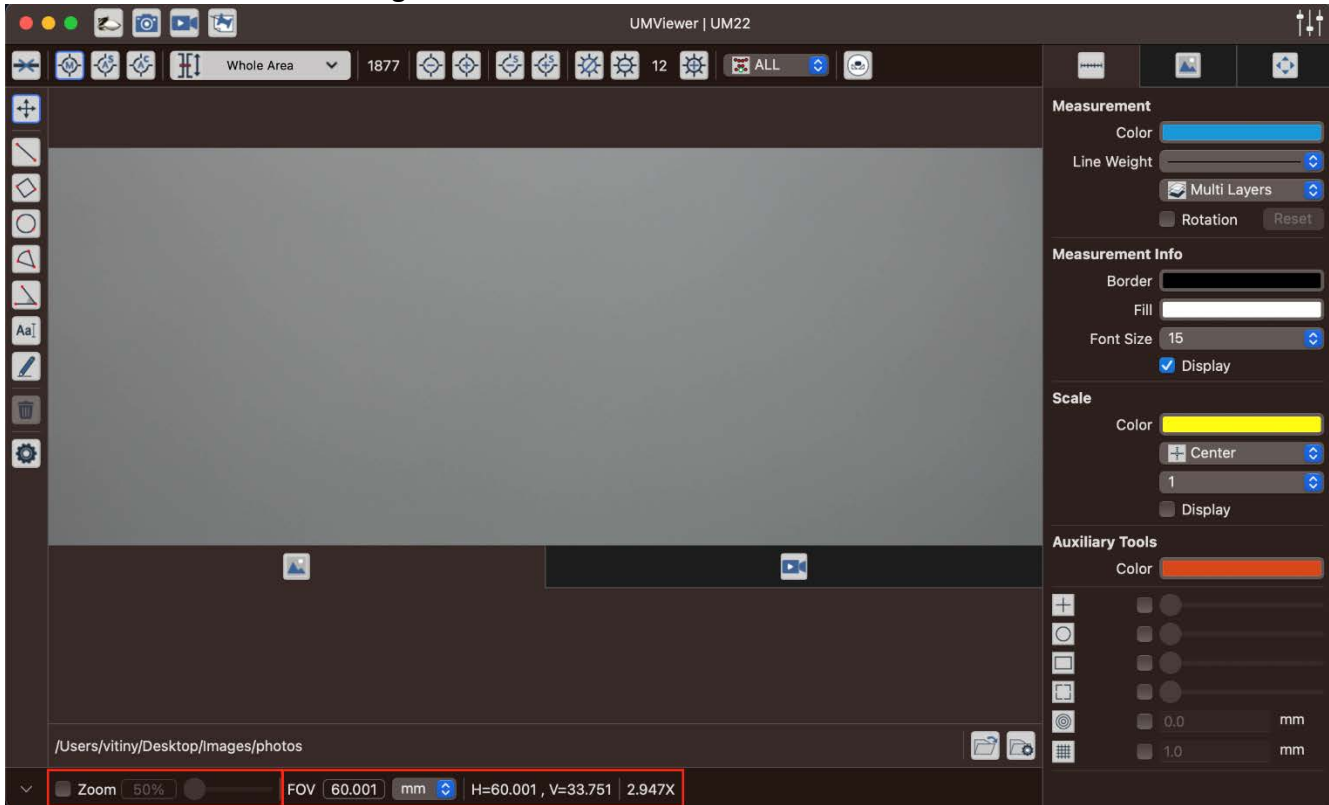

Figure 1-8 Status Information
In Figure 1-8, the area outlined by the red box on the bottom left consists of the following elements from left to right: the file list button, which opens or displays the file list when clicked; the image zoom area, where checking the checkbox enables zooming via the slider, while unchecking it adjusts the image to fit the window size.
The area marked by the red box on the bottom right in Figure 1-8 indicates the current FOV (Field of View) in terms of horizontal (H) and vertical (V) values. These values represent the numerical measurements of the FOV's horizontal and vertical dimensions, which change with adjustments to the FOV and magnification. Changes in the machine's focus position or recalibration will result in corresponding alterations in the FOV and magnification.